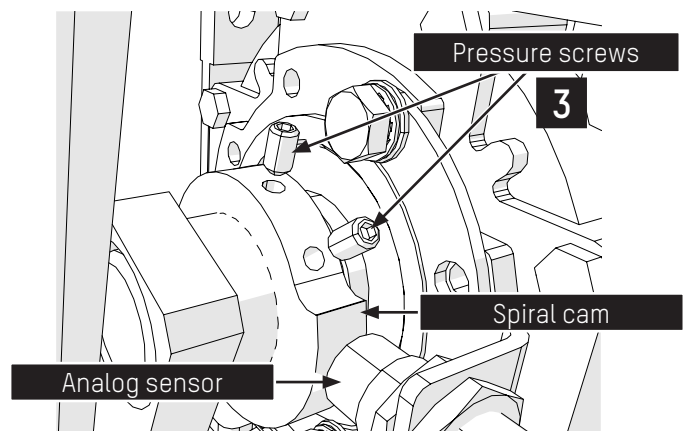

Fig. 34 - Detail of pressure screws fixing the spiral cam
8. Loosen the two pressure screws **(3)** of the spiral cam (⇒ Fig. 34, page 34);